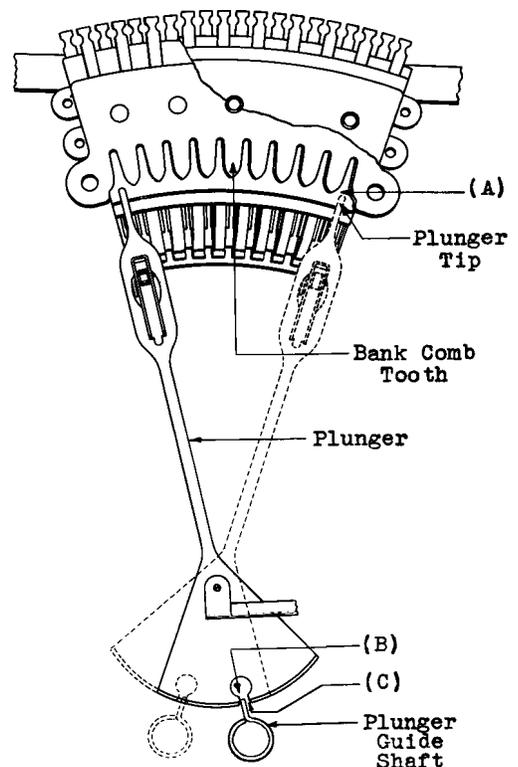

Fig. 4 — Relation of Plunger to Guide Shaft and Bank Comb
2.06 Plunger Oscillation: Fig. 4(B) — There shall be no observable change in the depth of engagement of the plunger guide shaft and the plunger fantail slot as the plunger oscillates under control of the guide shaft.
2.07 Fantail Slot and Plunger Guide Shaft Engagement: Fig. 4 (C)
2.08 Plunger Tip and Bank Comb Tip Clearance: Fig. 4(A)